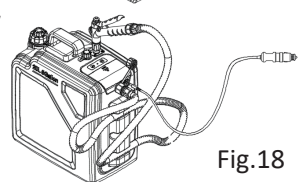

Fig.18
1. Insert DC circular plug of the power cable into the pump power port as shown in Fig 18